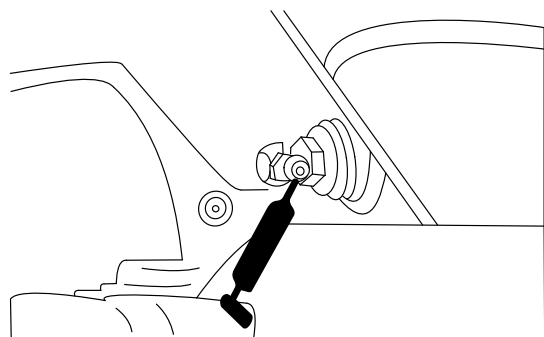

Figure 47
- Rear axle pivot (Figure 47).